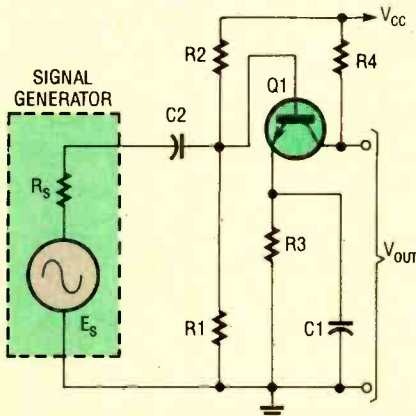

Fig. 5. This voltage amplifier with a bipolar transistor can be noisy if the source resistance is not of an optimum value.
Fig. 5. This is a typical audio-frequency range, analog tachometer. The LM311 acts as a signal conditioner, the 555 is a one-shot, and the RC network on the right is an integrator.
**Analog Tachometer/Frequency Meter.** The circuit shown in Fig. 5 is a tachometer and audio-frequency meter. Signal conditioning is provided by an LM311 voltage comparator (U1) connected as a zero-crossing detec-
Since bipolar transistors generate a lot of noise, a voltage amplifier based on one is a prime candidate for our discussion. In Fig. 5 we show a voltage amplifier using a bipolar transistor in the common-emitter configuration. Emitter stability is governed by resistor R3, and capacitor C1 bypasses the AC signal around R3 to prevent degeneration. Resistors R4, R1, and R2 set the transistor biasing and resistor R4 also acts as the collector load resistor. The output signal ( $V_{OUT}$ ) is available between collector and ground. The signal generator has an open-circuit voltage  $E_s$  and internal resistance  $R_s$ . Coupling of the source to the amplifier is provided by capacitor C2.